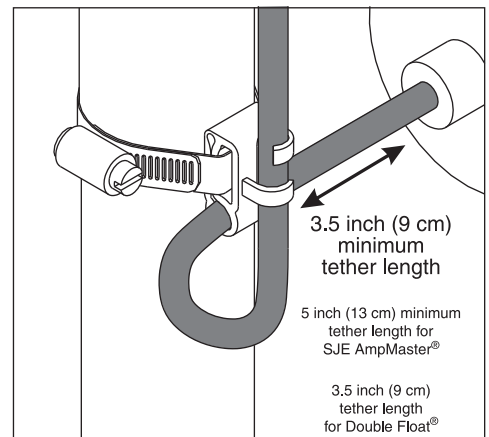

FIGURE 3
3. Mount float switches at appropriate levels as illustrated in **Figure 3.** Be sure that floats have free range of motion without touching each other or other equipment in the basin.
4. For mounting clamp installation: place the cord into the clamp as shown in **Figure 3.** Locate the clamp at the desired activation level and secure the clamp to the discharge pipe as shown in **Figure 3.**